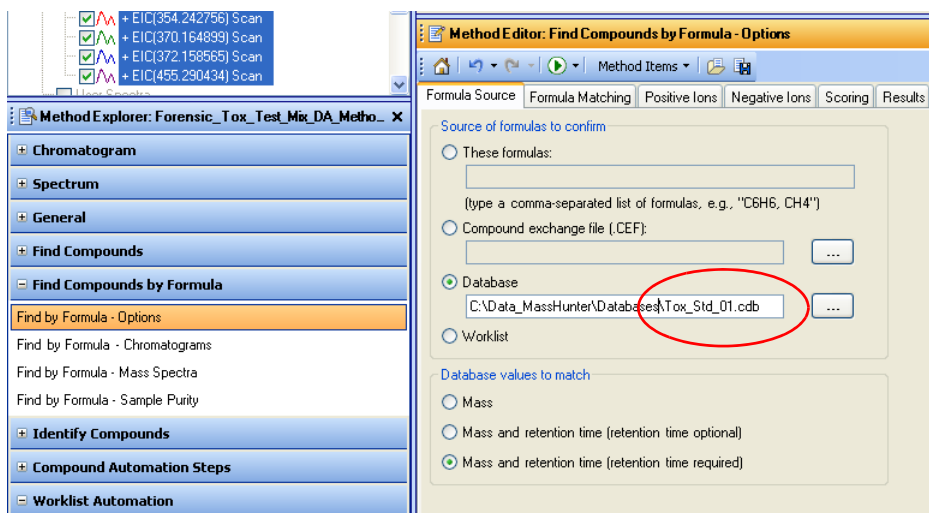

Figure 4 Find by Formula Method Editor Options (Custom Database)
- 2 From the support disk, copy the custom database **Tox_Std_01.cdb** to **D:\MassHunter\Database**, or wherever MassHunter databases are stored. See Figure 4.